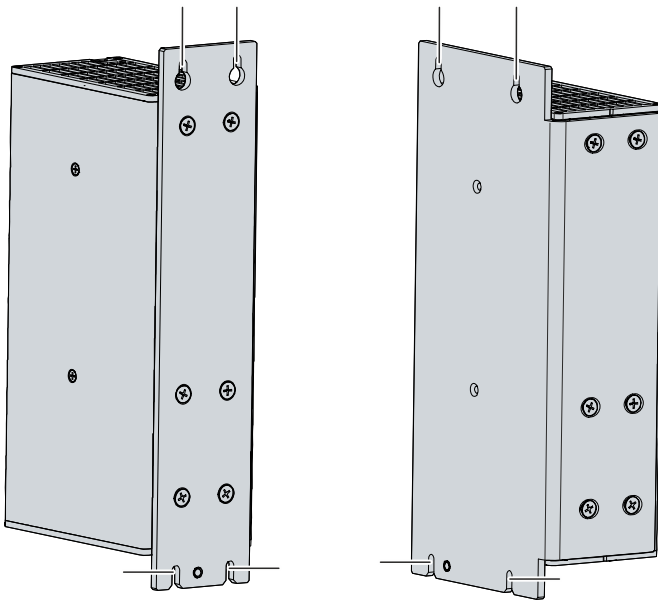

Fig. 17: Dismantling the control cabinet
2. Lift the PC far enough so that the fastening screws slip into the keyholes (see fig. 17).